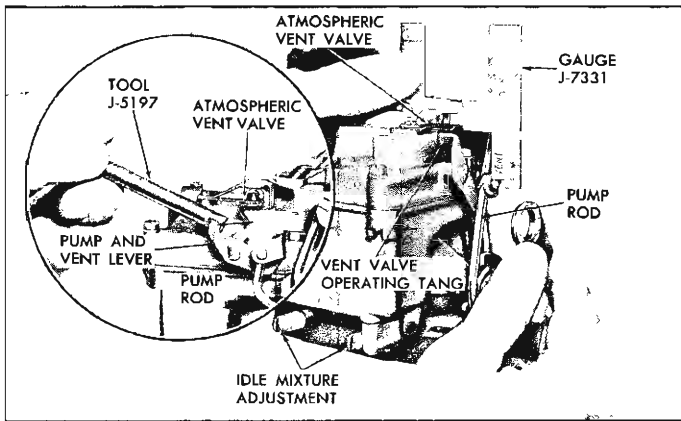

Fig. 18—Atmospheric Valve Adjustment
1. Place gauge J-7331 on top of pump housing on air horn as shown in Figure 18.
2. Slowly open throttle valves to a point where the atmospheric valve just closes on its seat (fig. 18 inset).